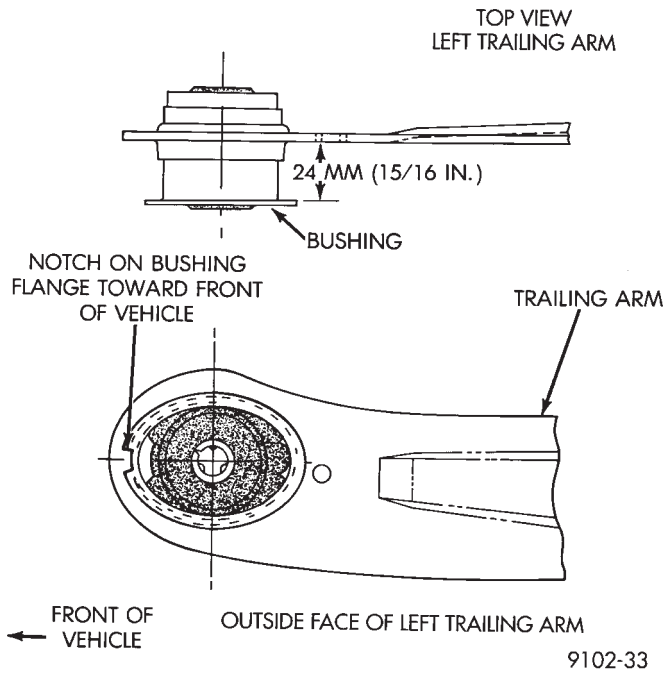
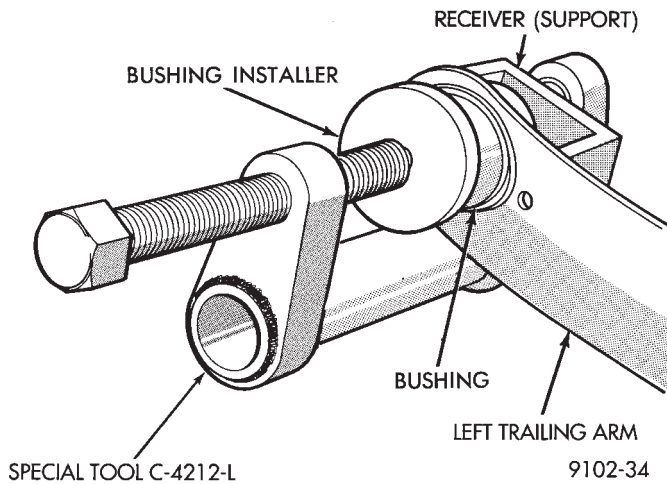

Fig. 9 Proper Position of Pivot Bushing
Fig. 10 Tools Assembled for Bushing Installation
(1) Align the bushing with the bushing mounting hole in the trailing arm bracket (Fig. 9). Tap bushing in slightly to hold position.
(2) Assemble bushing installer Tool onto press screw and support bridge into press base. **Position assembly as shown in (Fig. 10) and press bushing into arm to depth shown in (Fig. 9).**